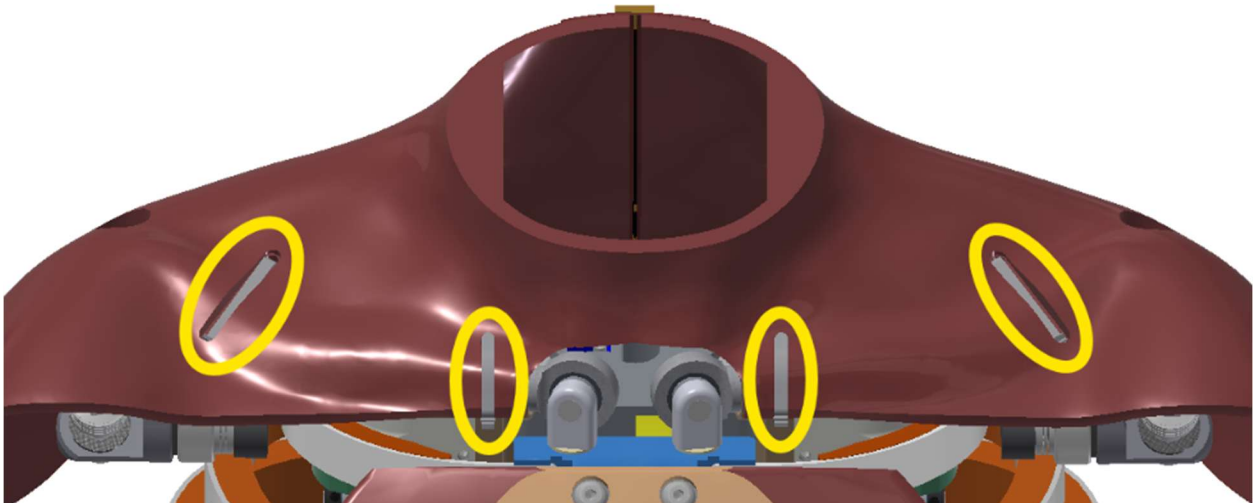

Figure 5-70. Install 4 cable ties to fasten the Shoulder Pad to the Clavicle Assemblies
- 5.3.35 Install 4 cable ties to fasten the Shoulder Pad (474-3559-A) to the Clavicle Assemblies (474-3508) (Figure 5-70).